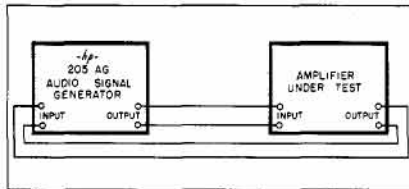

Figure 2. Typical test set-up.
-hp- 205AG includes an additional vacuum tube voltmeter to measure the output of the device under test. The instrument will determine complete gain and frequency response of an amplifier—no additional equipment is required. (Figure 2.)